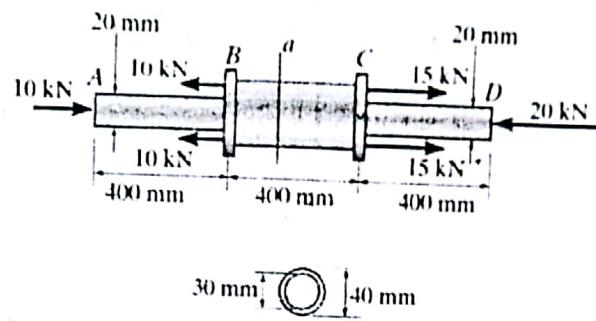

Fig. 2
2. Segments  $AB$  and  $CD$  of the assembly shown in Fig. 2 are solid circular rods, and segment  $BC$  is a tube. If the assembly is made of 6061-T6 aluminum ( $E_{al} = 68.9 \text{ GPa}$ ), determine the displacement of end  $D$  with respect to end  $A$ . [ $\delta_{D/A} = -0.449 \text{ mm}$ ]